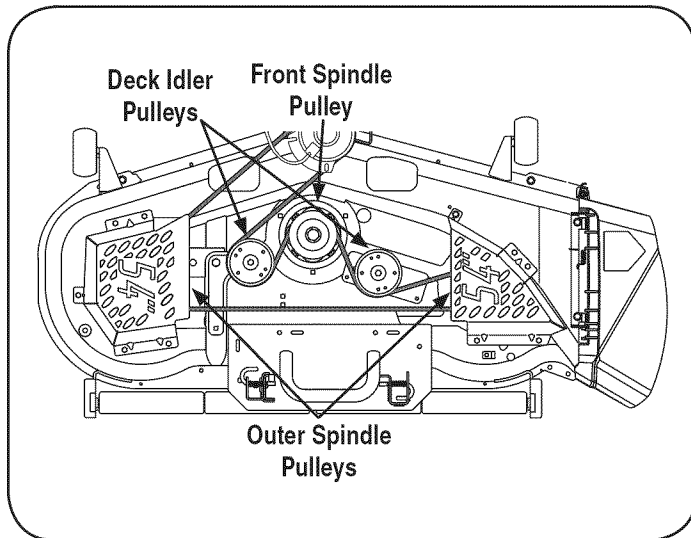

Figure 16
NOTE: The idler pulleys may have to be loosened, but not removed, in order to remove the belt from around them. Refer to Fig. 16 on the next page.
5. To place the new belt, begin by routing the belt around the two outer spindle pulleys, then around the front spindle pulley as shown in Figure 16.
6. Route the belt around the two deck idler pulleys as shown in Figure 16.